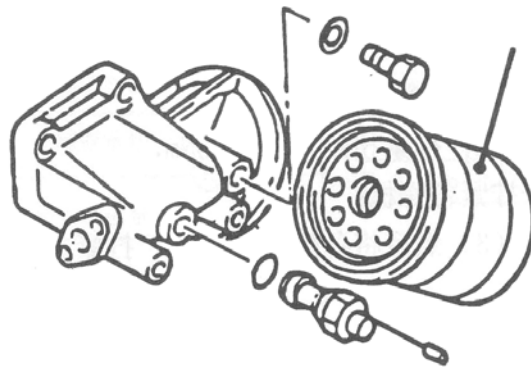

Fig 1.6
1.5.3 Engine Oil Filter (see Fig 1.6)